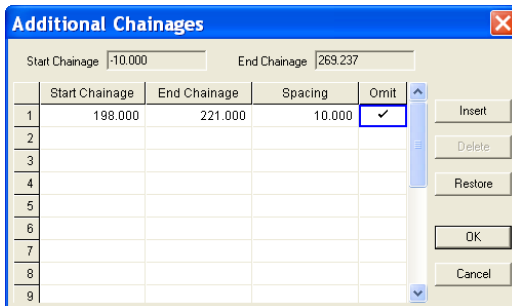

Figure 13-77. Start Additional Chainages
- Press OK to display the *Additional Chainages* table (Figure 13-77).